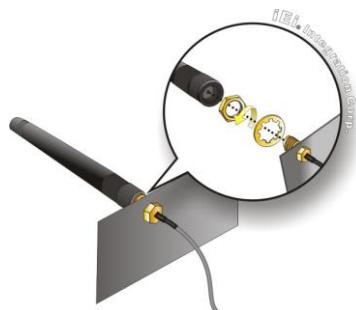

Figure 3-9: Securing SMA Connector and External Antenna Installation
Step 9: Install the external antenna (**Figure 3-9**).